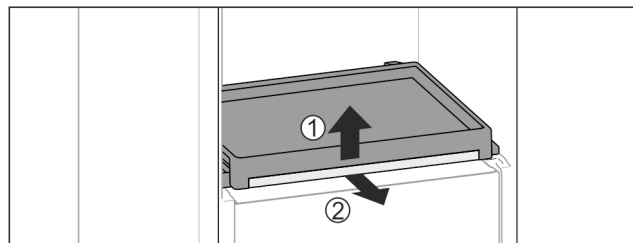

Fig. 95
- To remove the pull-out board with glass panel: Gently lift the glass panel at the front Fig. 95 (1) and pull out to the front Fig. 95 (2).